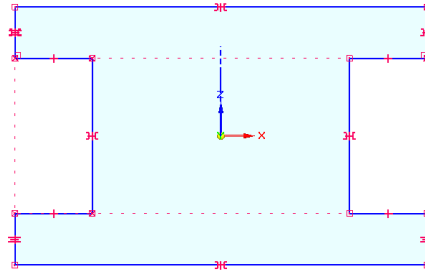
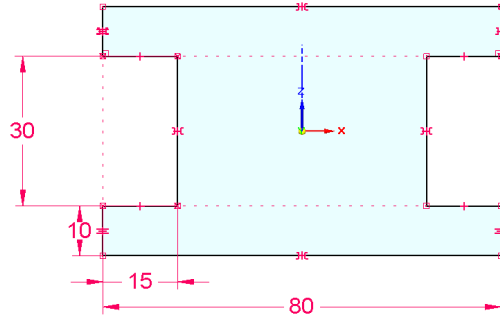

Figure 3-36 Profile after adding relationships
Figure 3-37 Profile after adding the relationships and dimensions
- Add relationships and dimensions to the outer loop, refer to Figure 3-36 and Figure 3-37.
13. Press the ESC key to exit the current tool. The sketch after adding all relationships is shown in Figure 3-36. Notice that all the relationships handles are displayed on the sketch.
This completes the dimensioning of the outer profile. The profile after adding these dimensions is shown in Figure 3-37.